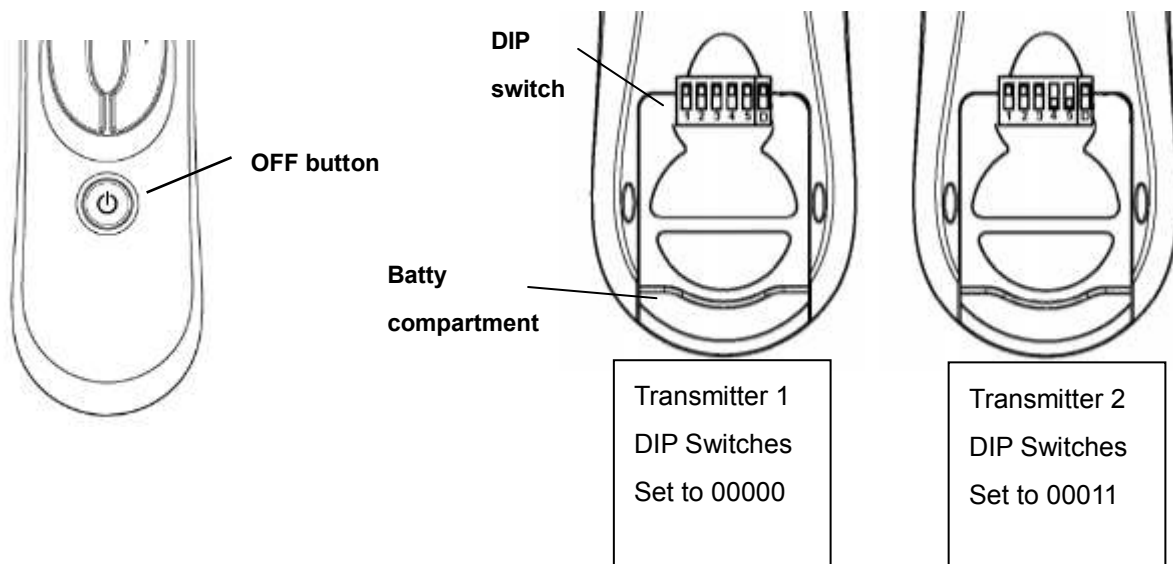

Fig. 1
- Change the position of the DIP switches in the remote transmitter 1, so that it will be different to transmitter 2. Fig.1